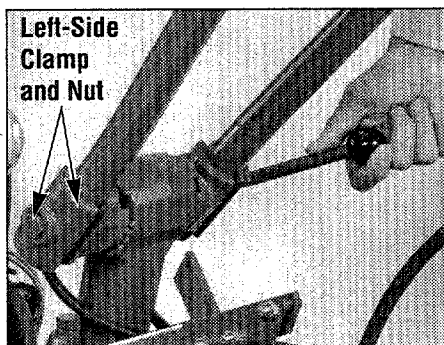

Figure 2-3. Fully assembled handlebars.
**NOTE:** Fully assembled handlebar assembly should appear as shown in Figure 2-3.